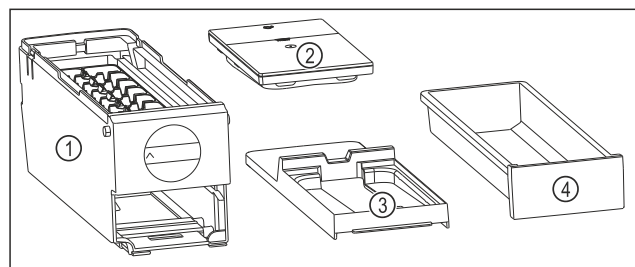

Fig. 143 Components of the EasyTwist-Ice
- ▶ EasyTwist-Ice is dismantled into four parts. (see Fig. 143)
- ▶ Only dismantle the EasyTwist-Ice into the components shown. (see Fig. 143)
- ▶ Clean the EasyTwist-Ice body Fig. 143 (1) as a whole.